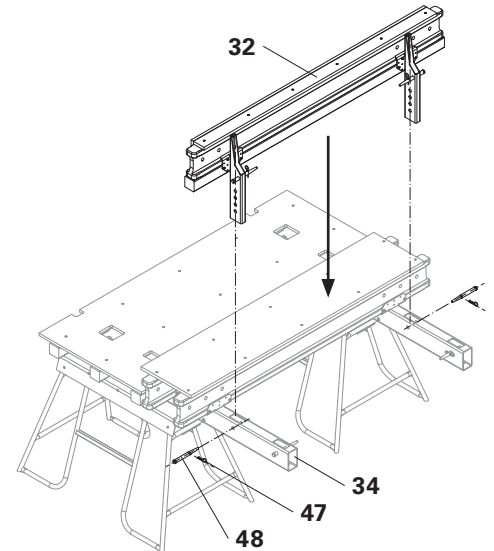
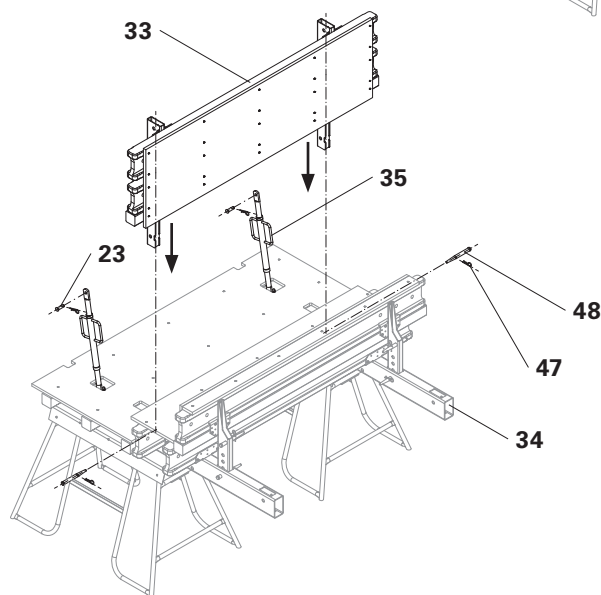
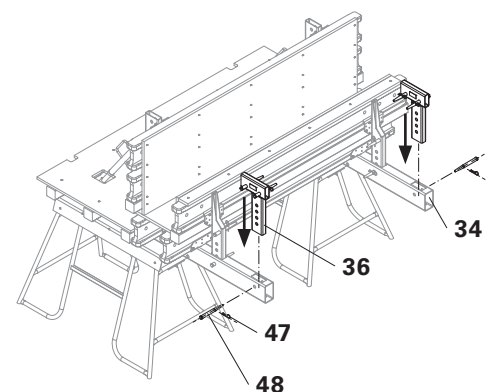

Fig. C1.03
Fig. C1.04
Fig. C1.05
1. Insert the Internal Formwork VD 250/265 (32) in the Platform Beam (34).
2. Install the Internal Formwork VD 250/265 (32) at the designated position using 1x Fitting Pin  $\varnothing$  21 x 120 (48) each and secure with Cotter Pin 4/1 (47). (Fig. C1.03)
3. Insert the External Formwork VD 250/265 (33) in the Platform Beam (34).
4. Install the External Formwork VD 250/265 (33) at the designated position using 1x Fitting Pin  $\varnothing$  21 x 120 (48) each and secure with Cotter Pin 4/1 (47).
5. Install Kicker AV 82 (35) on the External Formwork VD 250/265 (33) and the Platform Beam (34) using Bolts 16 x 42 (23) and secure with Cotter Pin 4/1 (47). (Fig. C1.04)
6. Insert the Connector Beam VD (36) in the Platform Beam (34).
7. Install the Connector Beam VD (36) at the designated position using 1x Fitting Pin  $\varnothing$  21 x 120 (48) each and secure with Cotter Pin 4/1 (47). (Fig. C1.05)